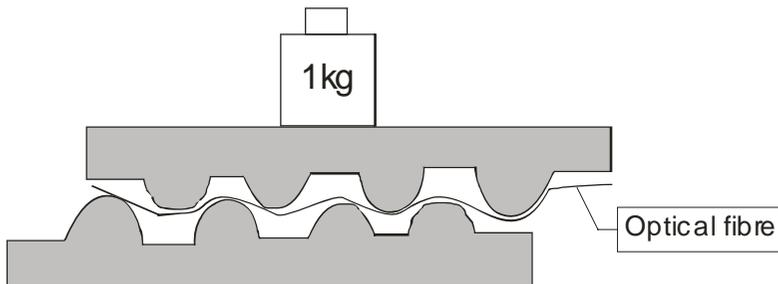

Figure 9: Weight measurement
4. It's also possible to measure weight with the method shown on the picture Figure 9? Try this experiment.